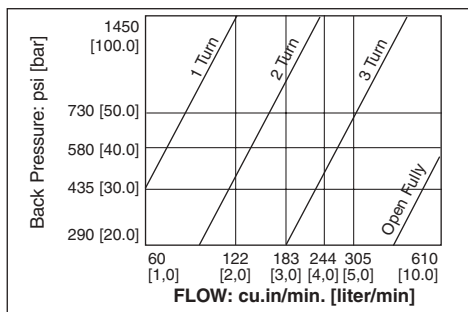

**Figure 3, Back Pressure vs. Flow Throttle:
3. For less flow restriction back out according to Back Pressure vs. Flow, Throttle G-F graph. (See Figure 3.)